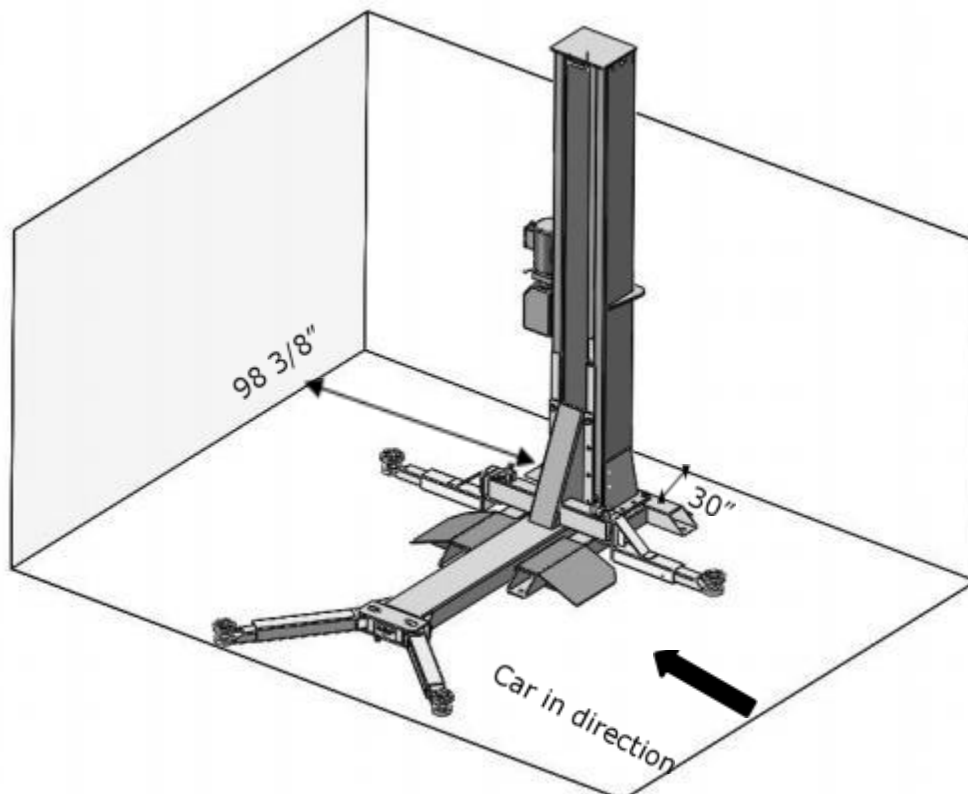

Fig.6
2. Installation space: Ensure there is enough space for the lift. Accurately measure the front, back, side and top mounting dimensions and refer to the below figure data(See Fig.6).